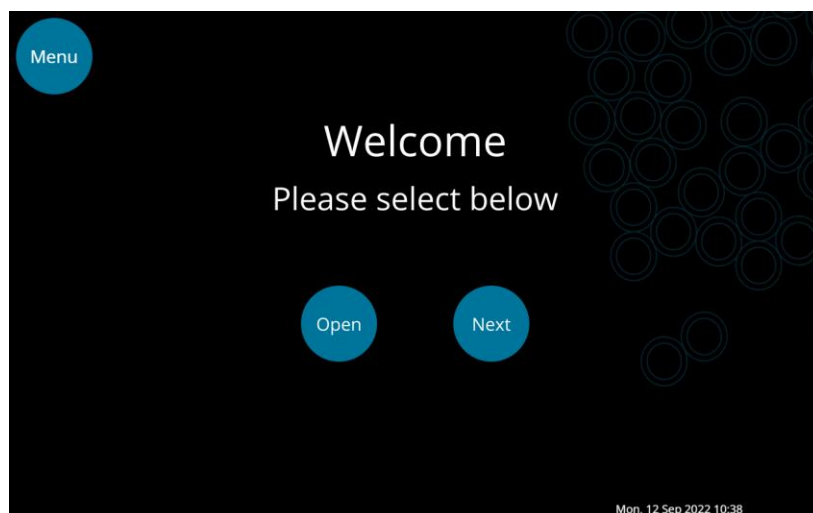

Fig. 5.5. The Welcome screen. Press Open to open the drawer.
1. Press Open on the Xdrop Sort instrument touchscreen to open the drawer (Fig. 5.5).